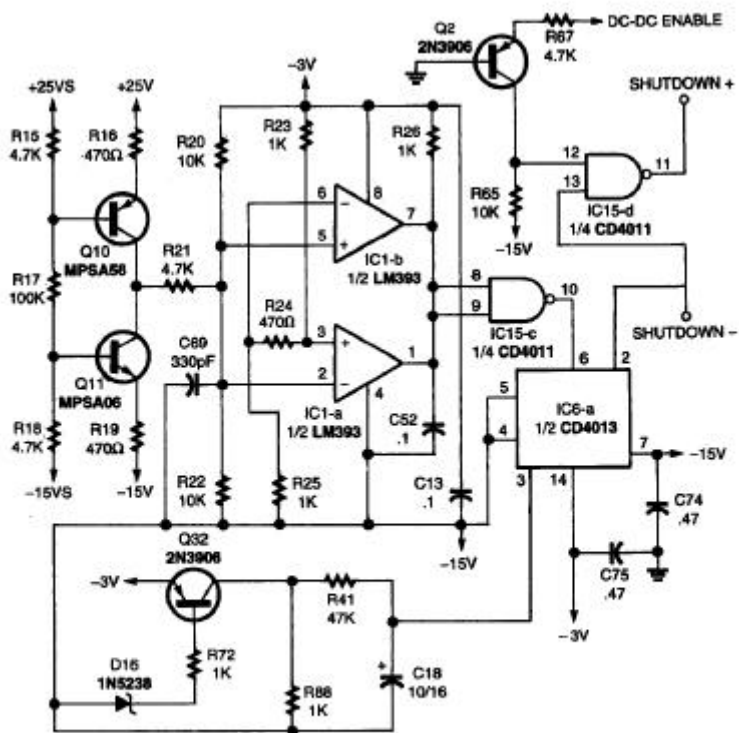

Fig. 6. The unbalanced-load shutdown circuit detects fluctuations in the supply voltages which would indicate a failure in one of the output transistors.
**Shutdown Control.** The shutdown circuit of Fig. 6 is used to control whether the output transistors are active or shutdown. Three conditions under which the output transistors should be shut down are when the power supply is starting up and the voltages are not stable, the input voltage is dropping and the power supply is shutting down, and when